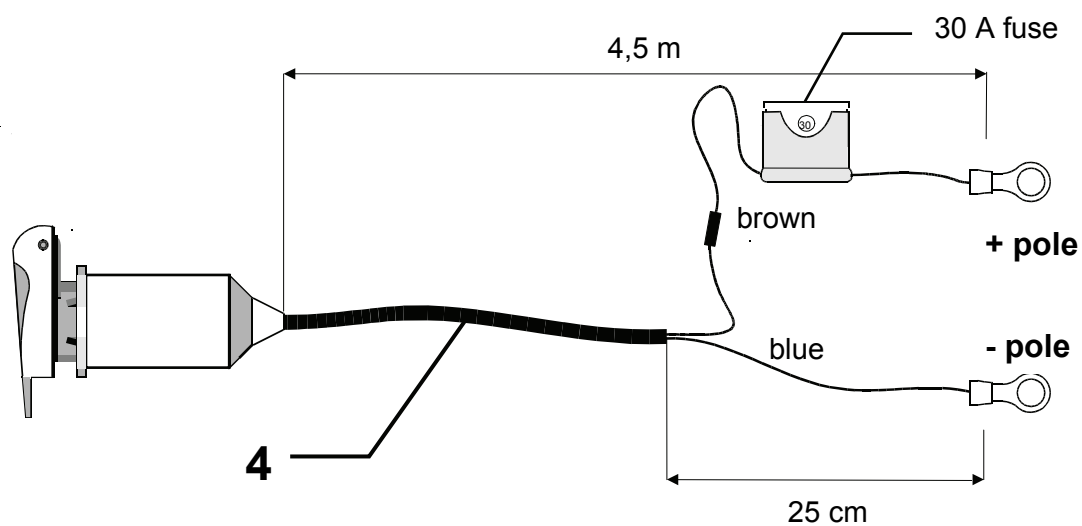

Fig. 3
In older tractors not equipped with a DIN socket, the battery wire (4) (fig. 3) is necessary and must be connected directly to the battery. The battery wire is not standard and must be ordered separately.